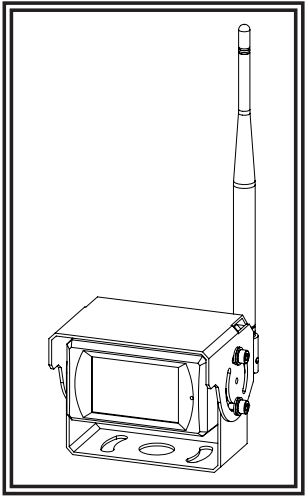

Figure 7
- 5. Attach the antenna so that it is vertical as shown in Figure 7.